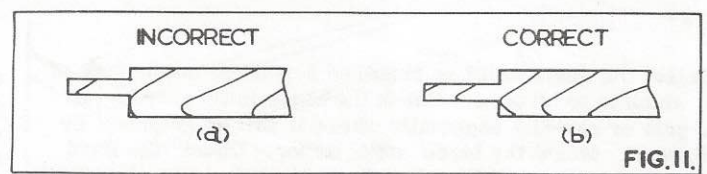

FIG. 11.
3. To check this setting feed a short piece of timber from the rear, along both sides of the riving knife. If the riving knife is incorrectly set the blade will cut unequal shoulders as shown in fig. 11 (a) and when correctly set equal shoulders as shown in fig. 11 (b).